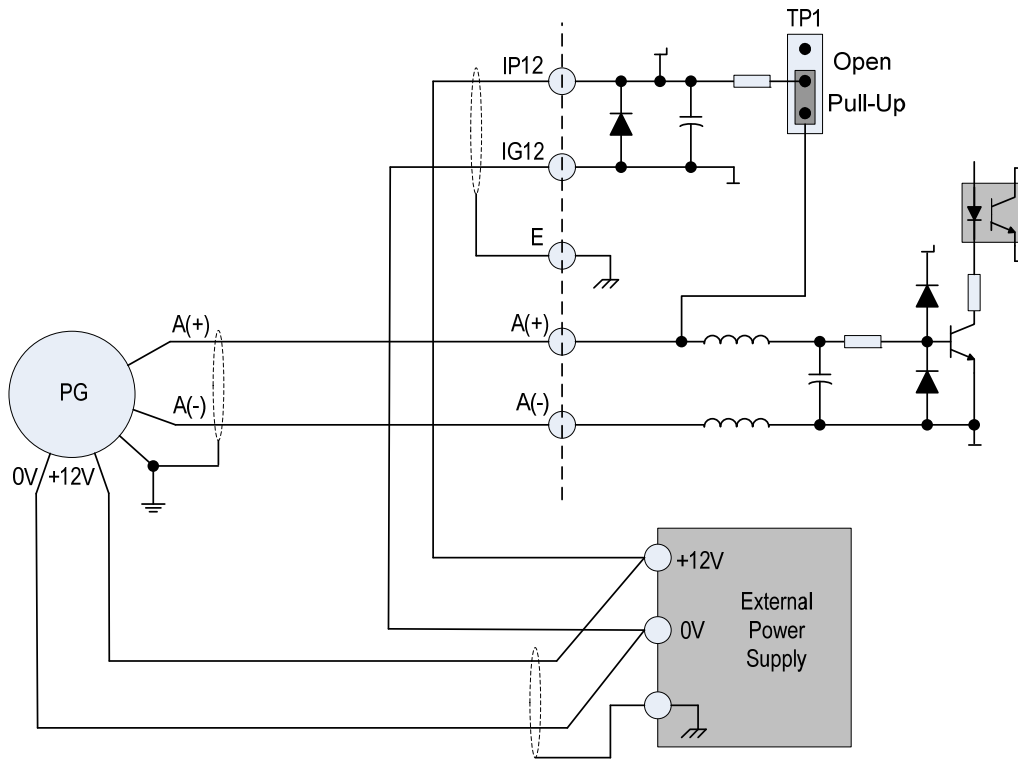

**Fig. 4.2.3 Sink / Source Configurations**
- (4) In Fig. 4.1.1b the control boards referenced have a jumper TP2 that can select the digital input to terminals ① - ③ to be set for SINK or SOURCE. The following Fig. 4.2.3 (a.) – (d.) show examples for the various SINK / Source interfaces.